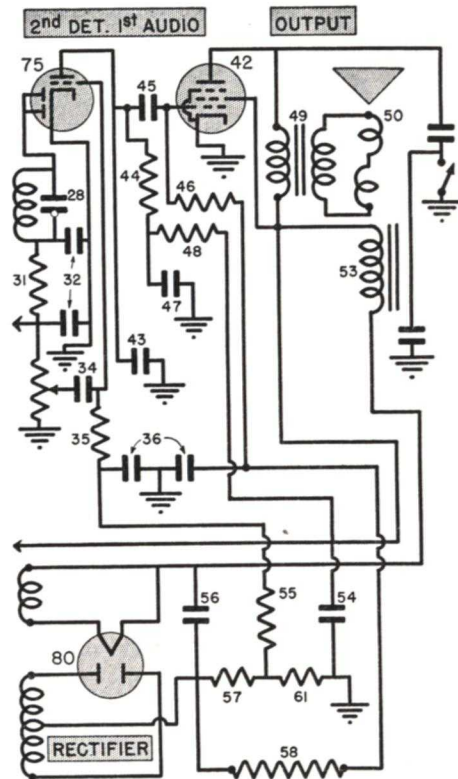

FIG. 10. A good example of trouble in one stage affecting another stage.
**Fixed Bias Troubles.** Fig. 10 shows the audio and power supply circuits of a typical a.c. radio using fixed bias. The bias for the 42 tube is developed across resistors 57 and 61, while the voltage drop across 61 also biases the 75 tube. This circuit is widely used; when distortion occurs in it, there are a number of points to watch.